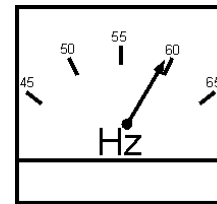

Figure 43. Frequency Meter (Hz)
11. The generator’s frequency meter (Figure 43) should be displaying the 60 cycle output frequency in **HERTZ**.